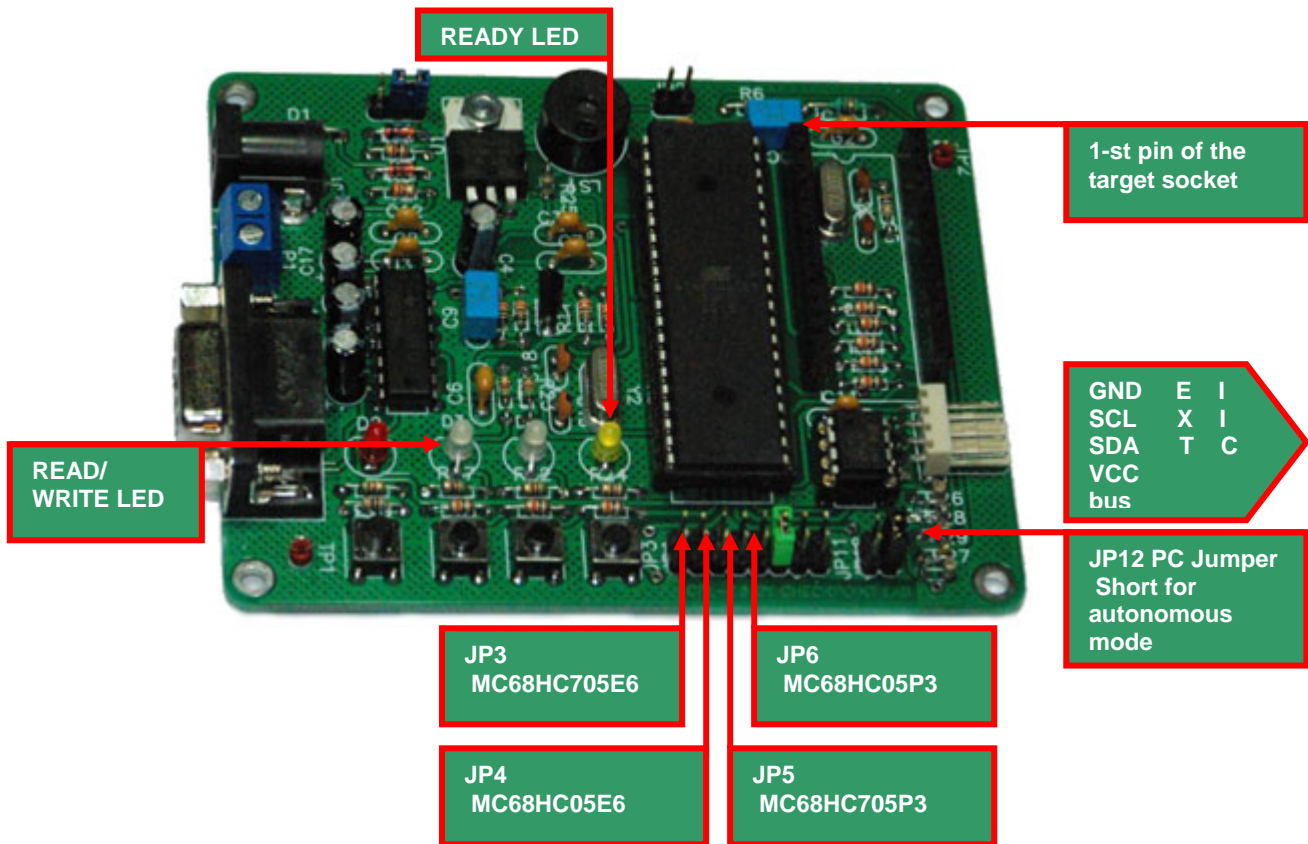

Figure 8
- Check jumpers bar (Figure 8) and make sure that MCU type is correctly selected